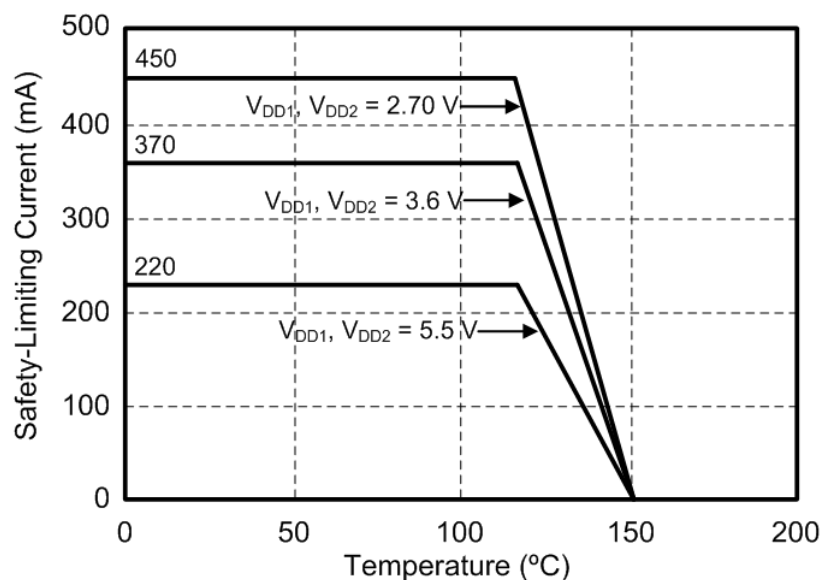
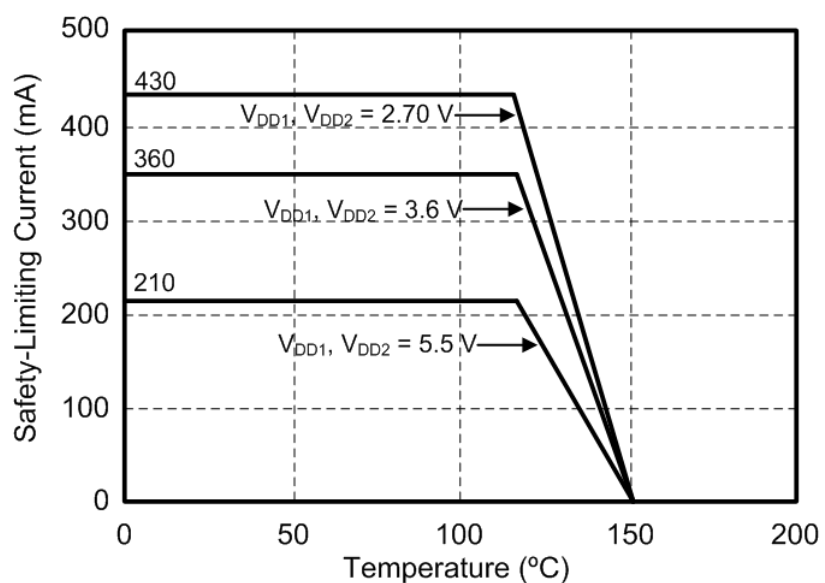

Figure 4.4. (WB SOIC-16) Thermal Derating Curve, Dependence of Safety Limiting Values with Case Temperature per VDE 0884-10
Figure 4.5. (NB SOIC-16, QSOP-16) Thermal Derating Curve, Dependence of Safety Limiting Values with Case Temperature per VDE 0884-10
- Maximum value allowed in the event of a failure; also see the thermal derating curve in [Figure 4.4 \(WB SOIC-16\) Thermal Derating Curve, Dependence of Safety Limiting Values with Case Temperature per VDE 0884-10 on page 26](#) and [Figure 4.5 \(NB SOIC-16, QSOP-16\) Thermal Derating Curve, Dependence of Safety Limiting Values with Case Temperature per VDE 0884-10 on page 26](#).